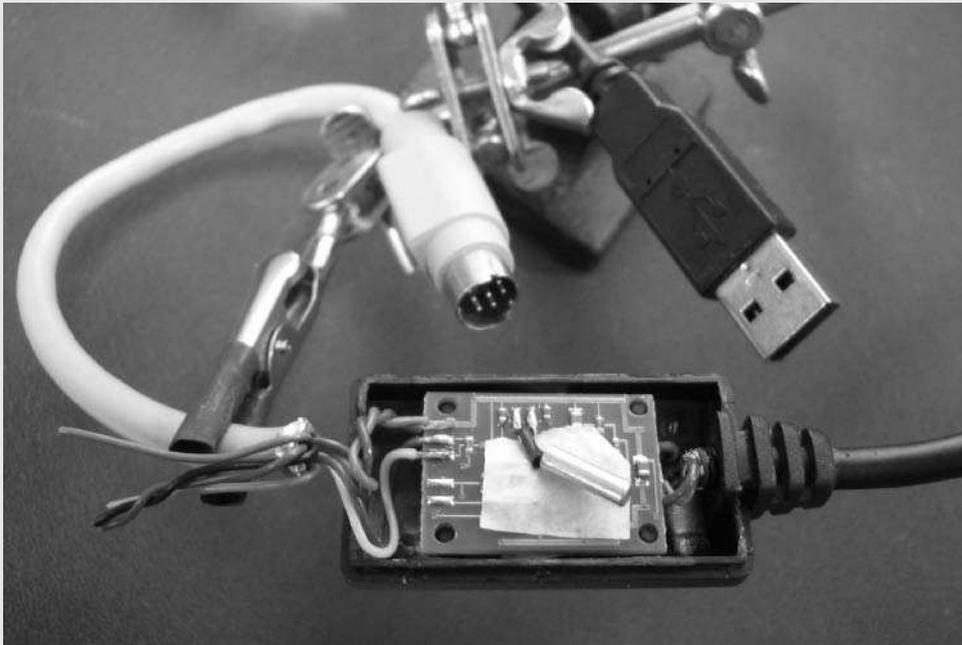

FIGURE 15-15: Soldering on a Mini-DIN 8-pin cable
4. Note the position of those wires and unsolder the cable bundle from the board. Then take a Mini-DIN cable that you've figured out which wires are GND, TXD, and RXD for Roomba and solder them onto the board in the correct position. Figure 15-15 shows the finished task.